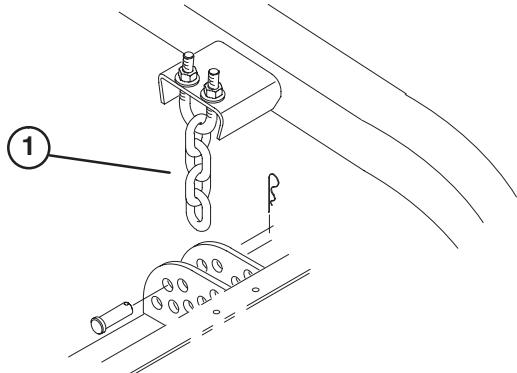

Figure 4
1. Remove hairpin cotter and clevis pin from height-of-cut chains (Fig. 4).